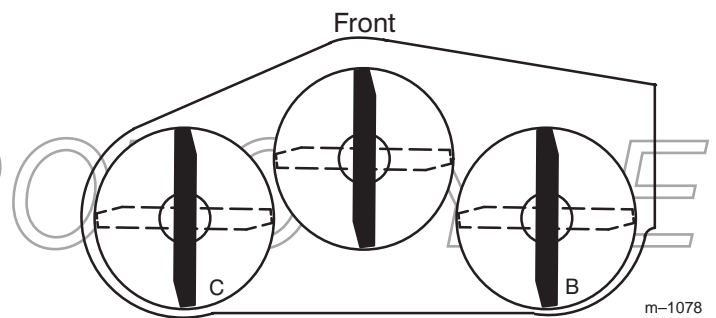
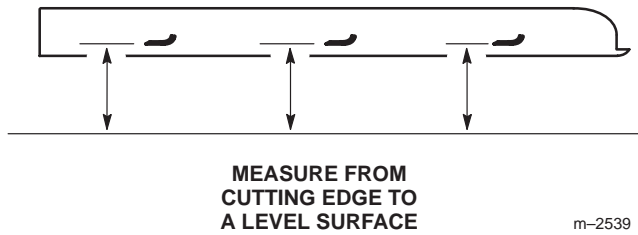

Figure 49
Figure 50
- Position the **right** blade front to rear (Fig. 49).
2. Measure the right blade at the **B** location (Fig. 49), from a level surface to the cutting edge of the blade tip (Fig. 50).
4. Position the **left** blade front to rear (Fig. 49).
5. Measure the left blade at the **C** location (Fig. 49), from a level surface to the cutting edge of the blade tip (Fig. 50).